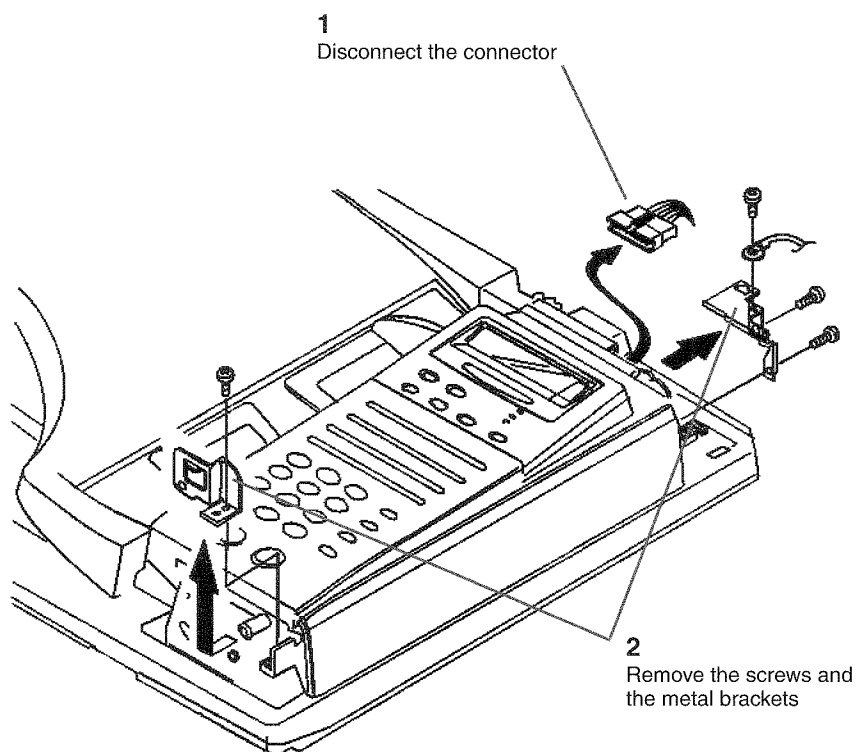

Figure 2 Preparing to remove the SDF Feed Assembly
2. (Figure 2 ) Prepare to remove the SDF Feed Assembly.